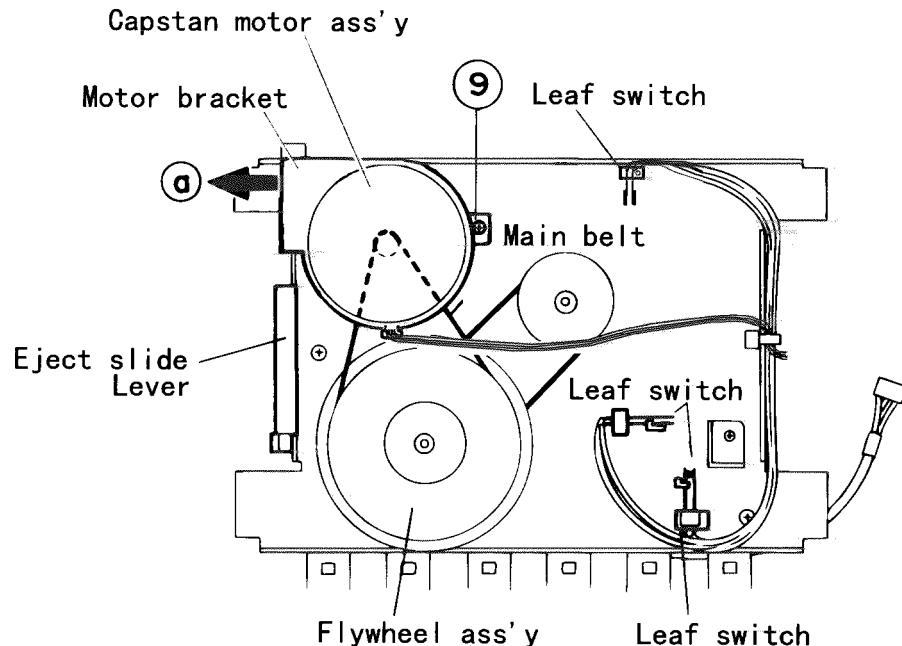

Fig.2-10
■ Capstan motor (Fig.2-10)
2. Remove one screw ⑨ retaining the capstan motor assembly from the back of the cassette mechanism assembly.